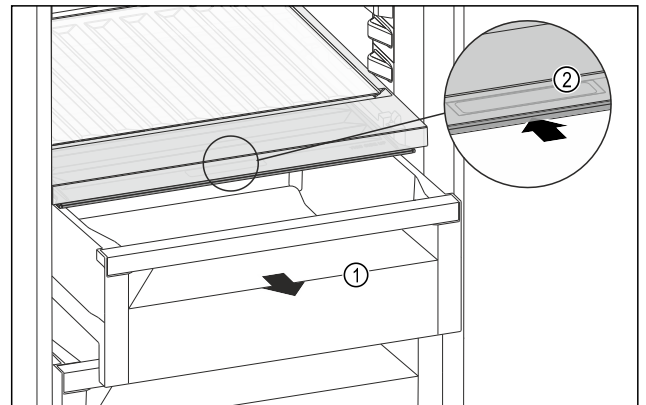

Fig. 224
- ▶ Pull out the drawer Fig. 224 (1).
- ▶ Grasp the recessed grip Fig. 224 (2) on the compartment lid and push the compartment lid backwards at the same time.